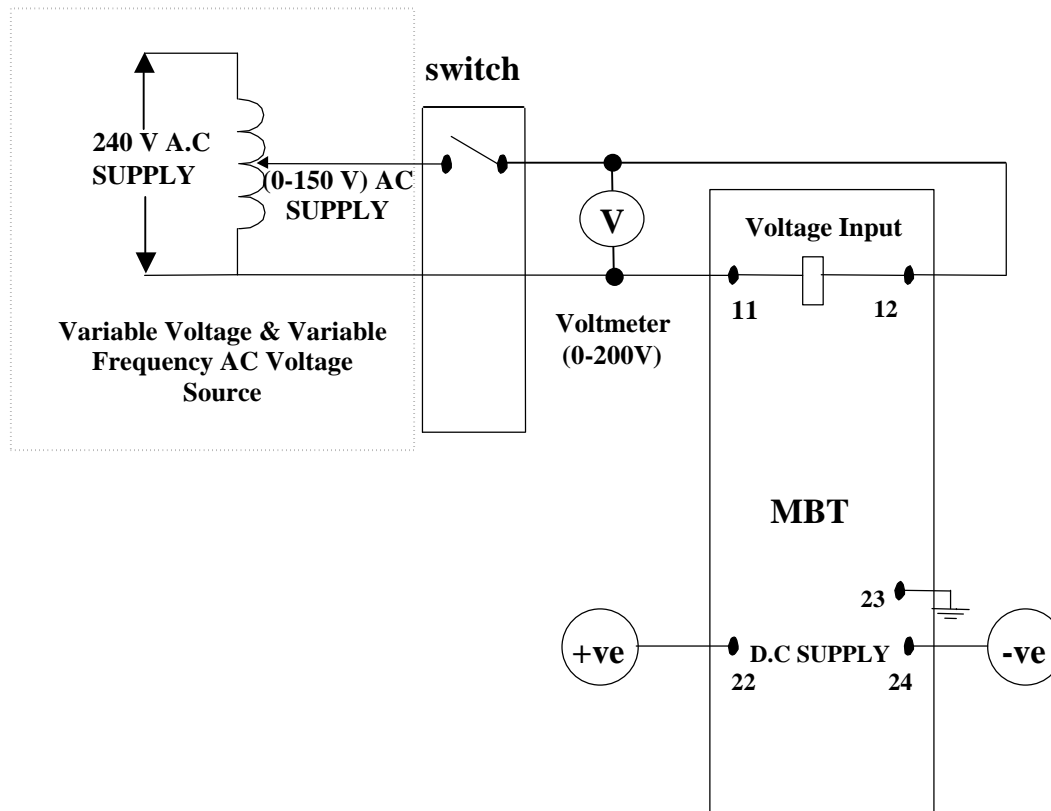

Fig 3 - Pickup & Reset Test Circuit
i) Apply single-phase or phase-phase voltage into the voltage-input terminal with constant frequency. Slowly increase the voltage until the starter LED (yellow) operates by keeping frequency at constant value and record the V/F pick up value in Table 1. Reduce the voltage until the LED goes off and record this as the reset level. In this test frequency is fixed and voltage is varied to get varies V / F values. Refer Fig.3.